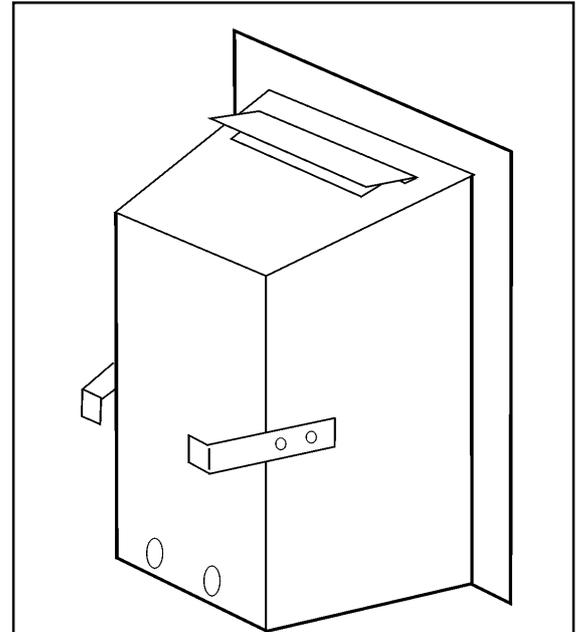

Figure 12. Fireback Spacers
12. The appliance is supplied with two fireback spacers. *Do not fit the fireback spacers if the fire is to be installed into a precast or clay flue block system as in section 4.2.3.* These should extend backwards to ensure sufficient clearance from the back of the fireplace. Remove the label and retaining screws from the rear sides of the hotbox. Position the fireback spacer as shown in figure 12. Secure the fireback spacers using the screws removed previously and the two supplied with the fire.